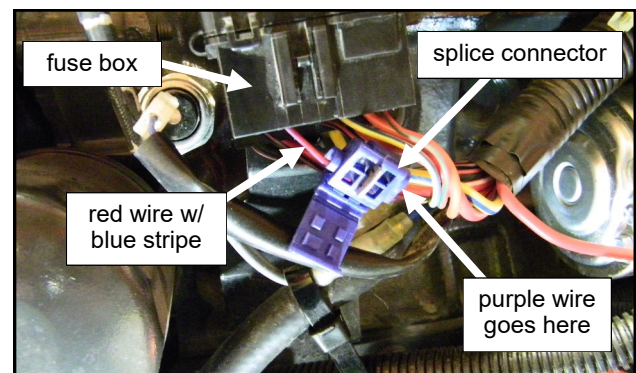

Fig. 10.6 (fuse box - left side of engine bay)
**10.6** Slide provided splice connector onto red wire with blue stripe, cut purple wire to length and then insert into the single sided opening of the connector. Close the connector. See fig. 10.6.